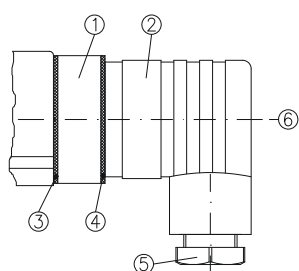

Fig. 5
- ⚡ Loosen the central screw ⑥ M3x35 and disconnect the cable socket ② from the connector ① (→ Fig. 5). Pull the central screw ⑥ out of the cable socket ②.